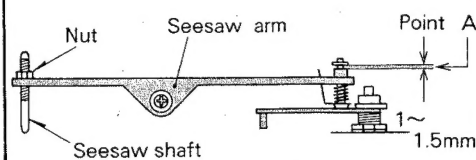

Fig. 10
- (c) Adjust seesaw shaft for dimension at point "A" in Fig. 10 1.0–1.5 mm (0.040–0.060 in.). After this adjustment tighten lock nut.